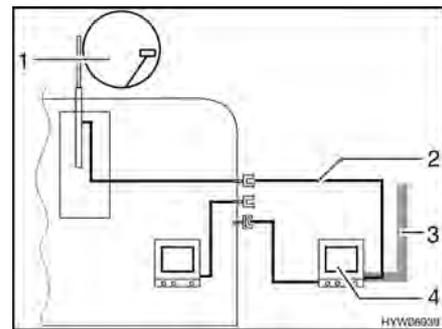

Fig. 149 TV in the awning
- TV inside the awning (Fig. 149,4): Connection to roof antenna (Fig. 149,1) with connection cable (Fig. 149,2)
- TV inside the awning (Fig. 149,4): Connection to external antenna (Fig. 149,3)